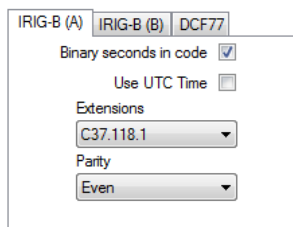

Figure 30 - IRIG-B sub-tab with multiple streams
**Note:** On Clocks which support multiple IRIG-B streams, two sub-tabs which are labelled “IRIG-B (A)” (IRIG-B Stream A) and “IRIG-B (B)” (IRIG-B Stream B) will appear. Refer to Figure 30. Under “Payload” in the individual port settings, the user will be able to configure the port to use either IRIG-B stream.